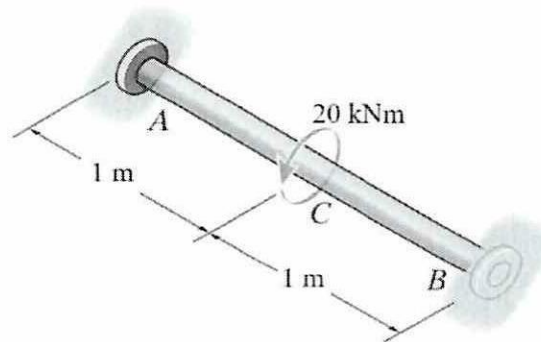

Figure Q3.1
- Q3 (a) A thin-walled circular section beam has a diameter of 200 mm and is 2 m long as shown in **Figure Q3.1**. It is firmly restrained against rotation at each end. A concentrated torque of 20 kNm is then applied to the beam at its mid-span point. If the maximum shear stress in the beam is limited to 200 N/mm² and the maximum angle of twist to 2°, calculate the minimum thickness of the beam walls. Take $G = 25\,000\text{ N/mm}^2$. (10 marks)